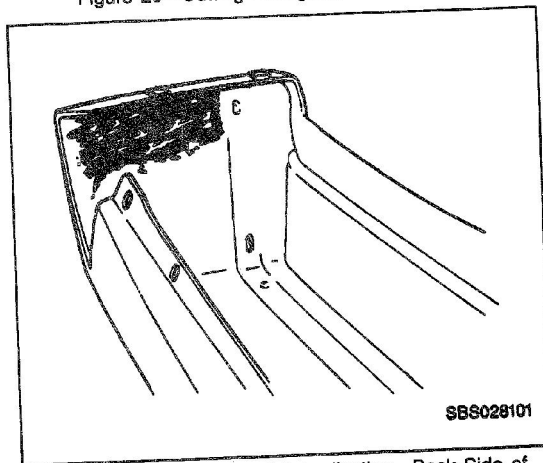

Figure 21—Repair Material Application—Back Side of Damage
- a layer of the mixture approximately 3 mm (0.12-inch) thick on the back side of the part overlapping the break 38 to 51 mm (1.5 to 2.0-inches) (Figure 21).